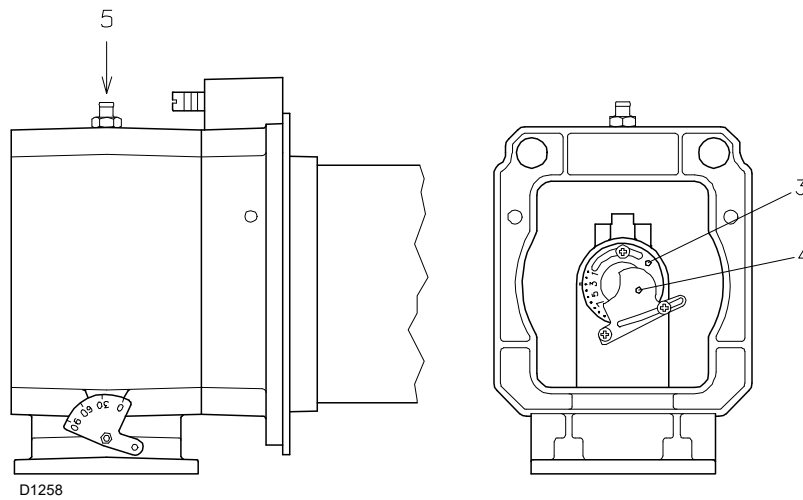

Fig. 3
Use the screw 1)(Fig. 3); the same screw for the natural gas operation.
Pressure measured at the coupling (5)(Fig. 3) with combustion chamber at 0 mbar and burner in 2nd stage operation.